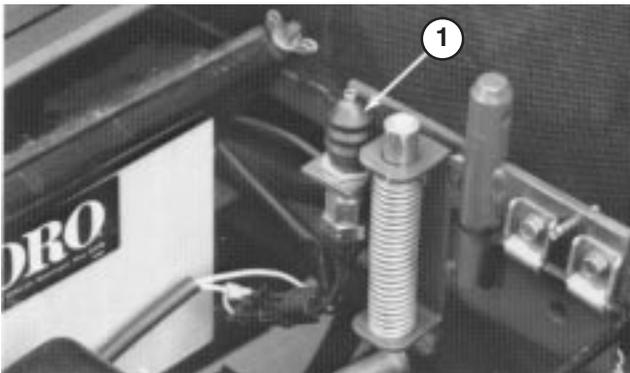

Figure 42
3. Remove boot from button end of seat switch (Fig. 42). Retain boot for reinstallation. Separate switch wire connectors.